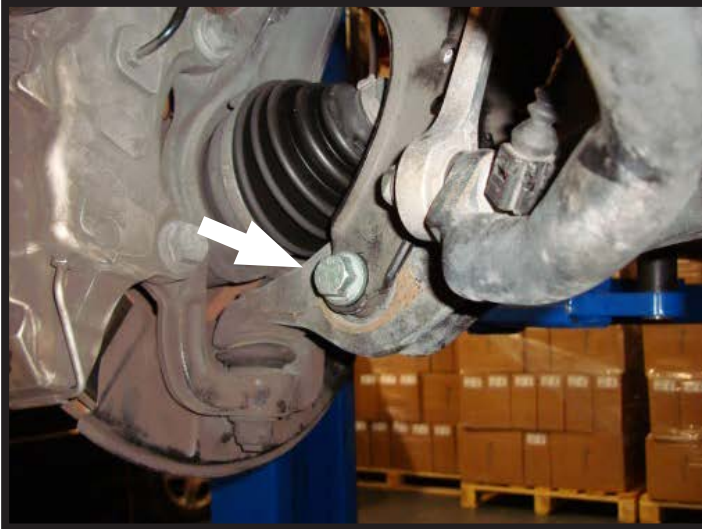

FIGURE 10-2
5. REMOVE THE LOWER SHOCK-MOUNTING NUT AND BOLT. (FIGURES 10-2, 10-3)